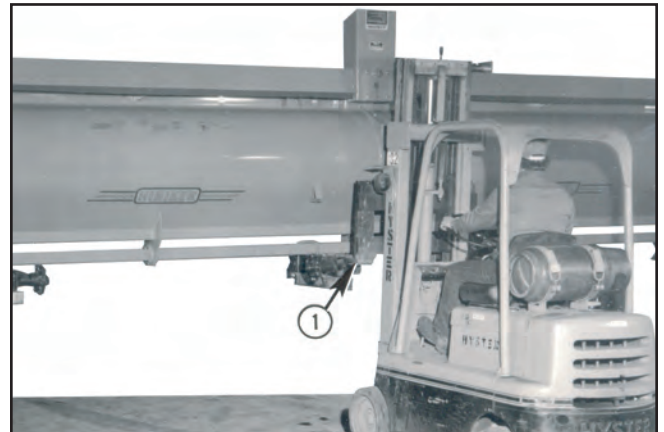

FIGURE 100
For forklift offloading, 2 fork pockets (1), spaced 32" apart, are provided. The forklift may approach the shredder from either the knives, or hood, face. Set forks centerlines 32" apart and position forklift as close as possible to shipping package. Lift off carrier and deposit on a firm, clear and level work area. See Figure 100.